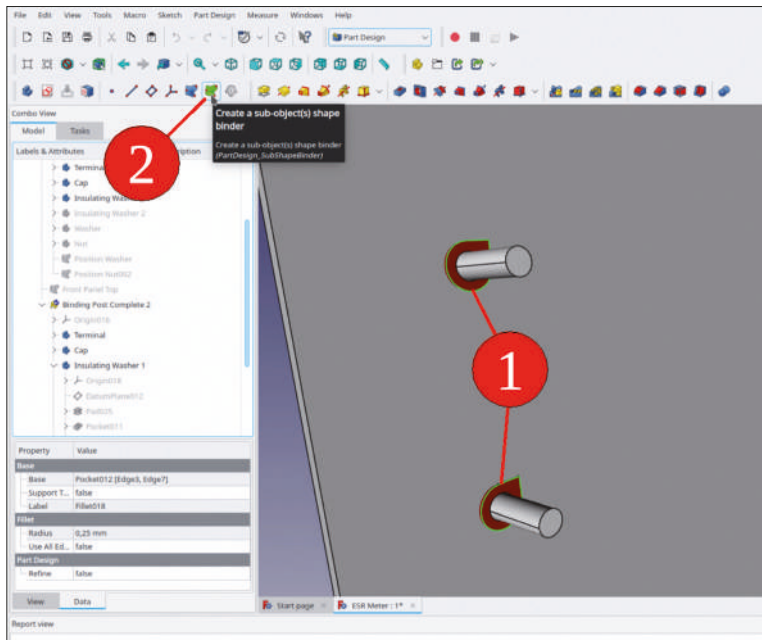

Figure 7-35
21. On the binding posts, mark all edges which define the footprint. Hold down the STRG key for this multiple selection (Figure 7-35).